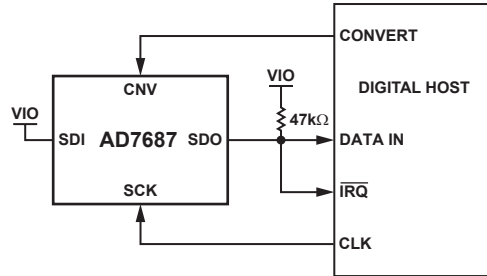
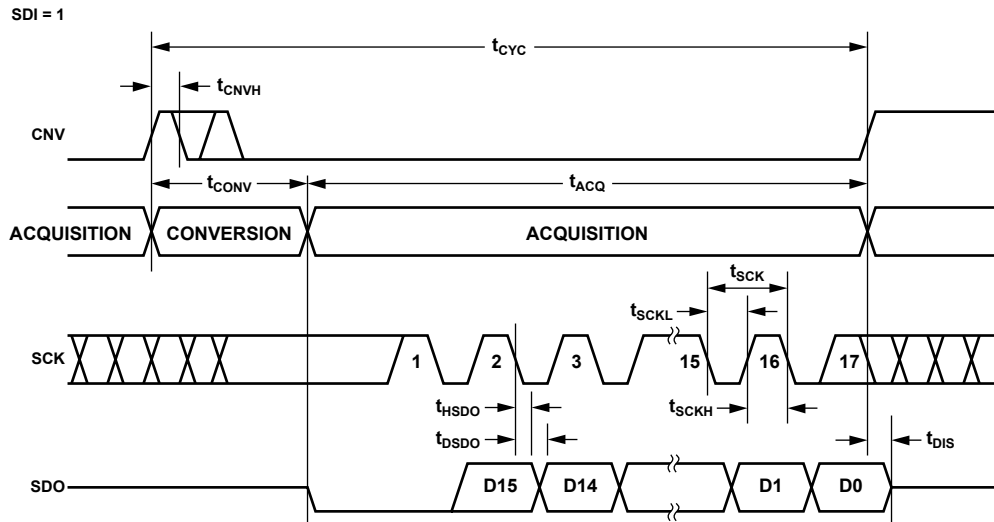
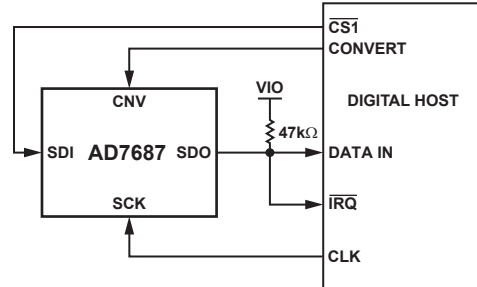
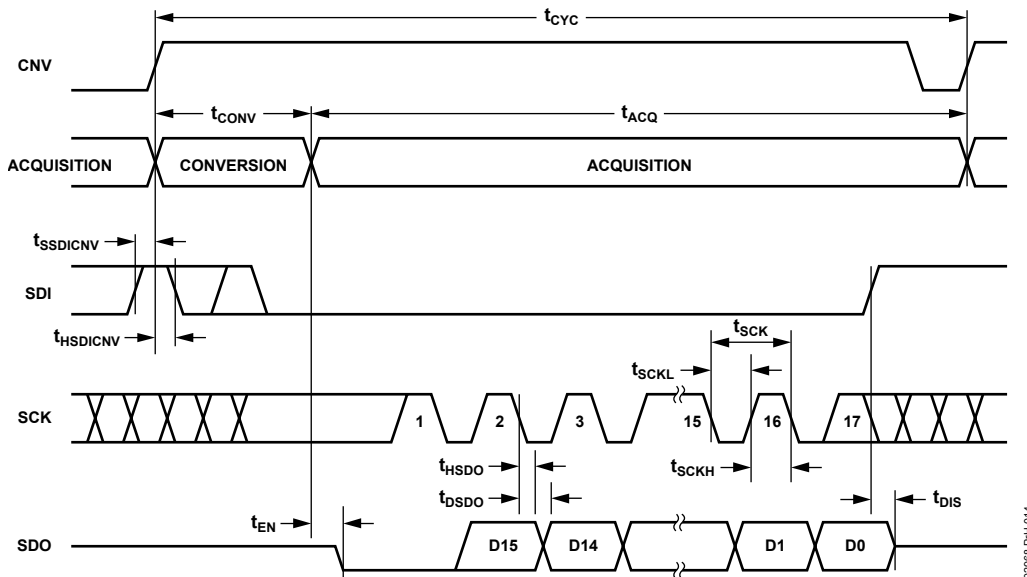

Figure 36. \overline{CS} Mode 3-Wire with *BUSY* Indicator Connection Diagram (SDI High)
Figure 37. \overline{CS} Mode 3-Wire with *BUSY* Indicator Serial Interface Timing (SDI High)
Figure 40. \overline{CS} Mode 4-Wire with BUSY Indicator Connection Diagram
Figure 41. \overline{CS} Mode 4-Wire with BUSY Indicator Serial Interface Timing
- In the $\overline{\text{CS}}$ mode, if CNV or SDI is low when the ADC conversion ends (Figure 37 and Figure 41).
The connection diagram is shown in Figure 36 and the corresponding timing is given in Figure 37.
The connection diagram is shown in Figure 40 and the corresponding timing is given in Figure 41.